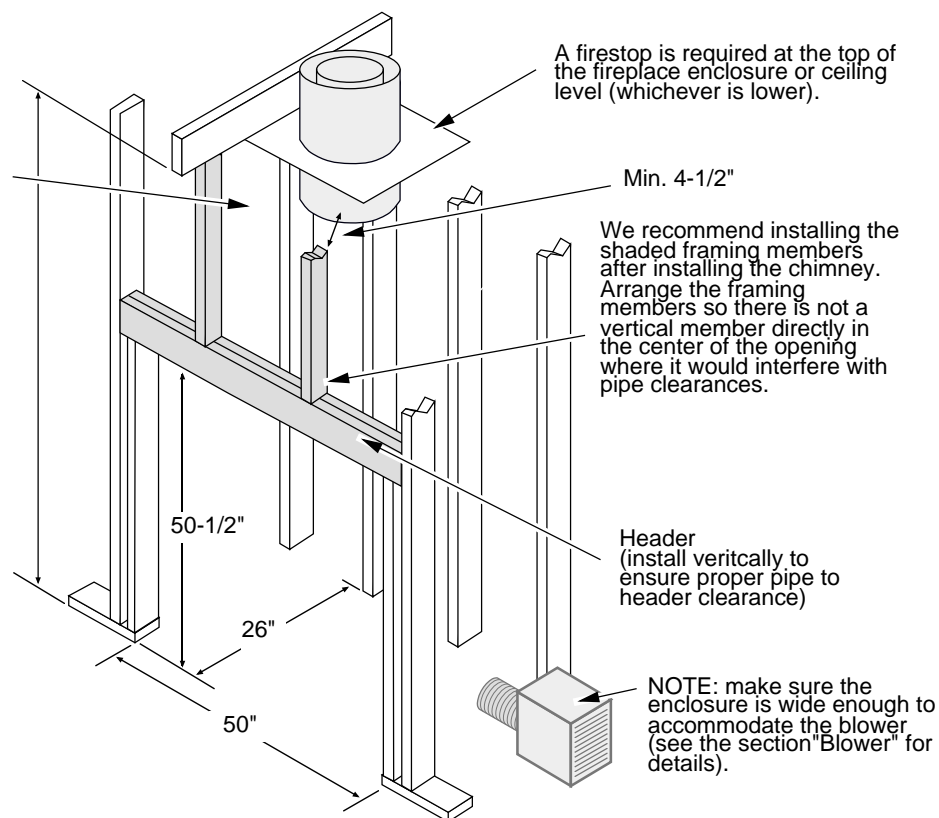

Figure 7
- If the fireplace is raised, the fireplace enclosure must be raised as well (minimum 81" enclosure height from base of fireplace see Figure 7).